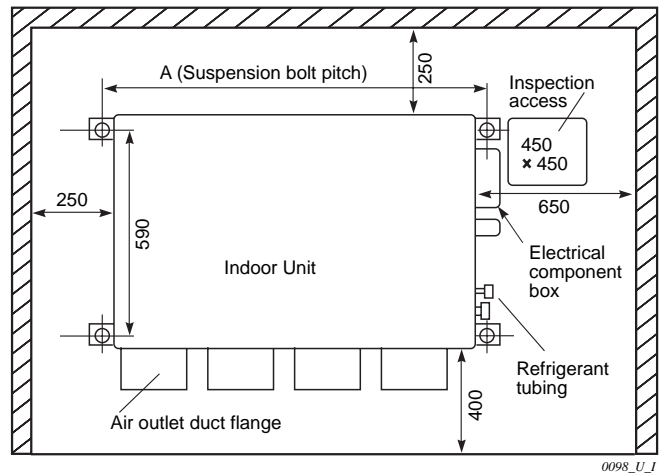

Fig. 3-81
- The minimum space for installation and service is shown in Fig. 3-81 and Table 3-4.